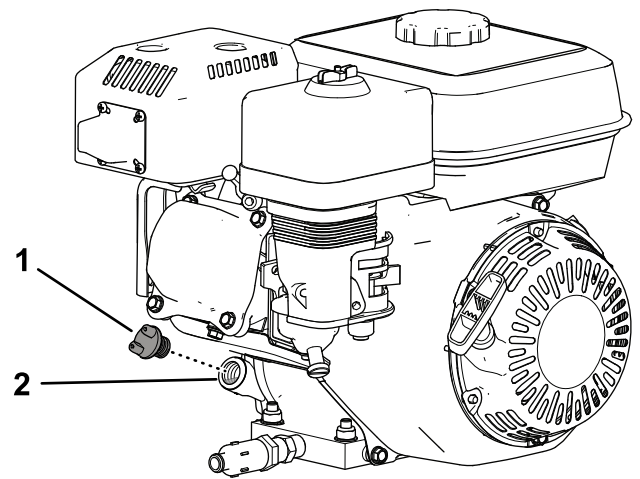

Figure 12
1. Clean the area around the oil-filler cap (Figure 12).